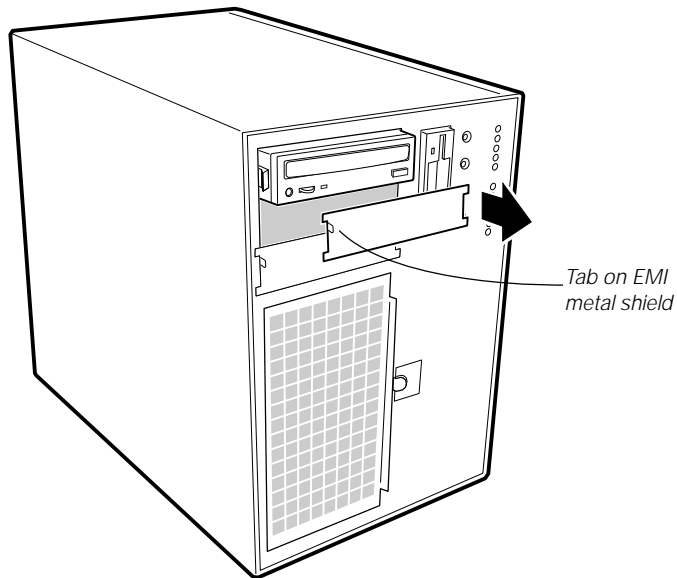

Figure 16: Removing the EMI Shield
4. Push the tab (A in Figure 16) on the left side of the EMI metal shield to the right to disengage it from the chassis. Remove and save the shield.